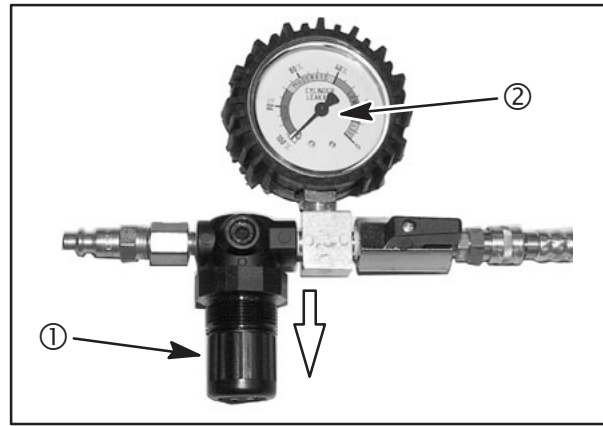

Fig. 4
7. While securely holding the flywheel nut with the breaker bar and socket, pull the adjustment knob OUT (arrow), **Fig. 4**. Slowly turn the regulator adjustment knob (1) **CLOCKWISE** until tester needle (2) is on the set point. Push in regulator adjustment knob.